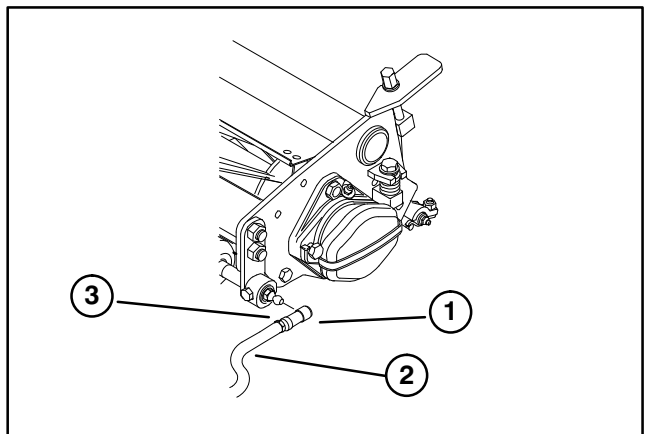

Figure 9
4. Slide the sleeve back on the ball joint and rotate the pull arm down so the socket fits over the ball stud. Release the sleeve so it slides over the stud and locks the assemblies together (Fig. 9).
6. Align the sockets in the ball joints so the open side of the socket is centered towards the ball stud. Tighten the jam nuts to secure the sockets in position (Fig. 9).